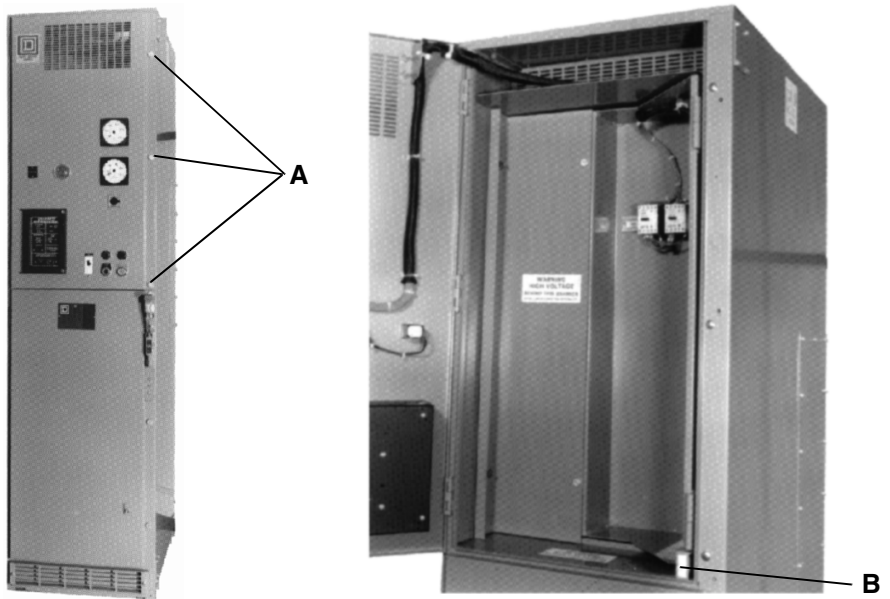

Figure 15 Low Voltage Compartment
3. Turn thumb screws (Fig. 15, item A) counter-clockwise.
4. Swing door to left and out of the way for access to devices and terminal blocks. If access to low voltage compartment is attempted while controller is energized, it will automatically deenergize when the door interlock (Fig. 15, item B) opens.
The low voltage compartment door interlock (Fig. 15, item B) is an electrical interlock that deenergizes the controller when the low voltage door is opened. To check the operation of the low voltage compartment door interlock: